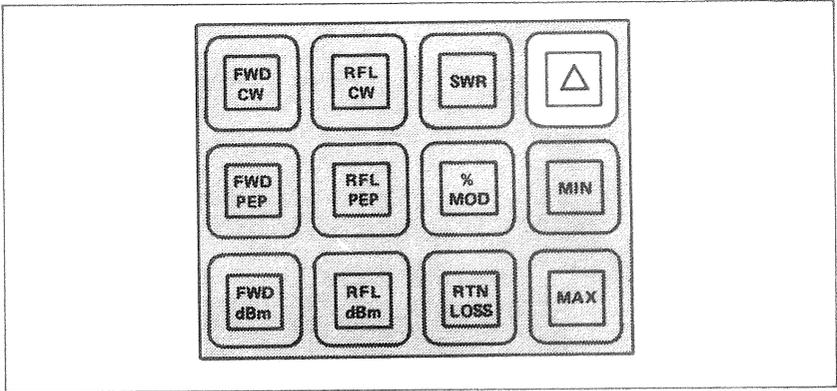

Figure 3-9. Peaking Aid (△).
i. Using the Peaking Aid. (Figure 3-9.) The peaking aid is useful for making adjustments to optimize any of the parameters which the 4391 measures. After the mode is selected, the delta (Δ) key is pressed momentarily. This blanks the least significant digit of the display, and replaces it with a right facing arrow head if the measured quantity is increasing and a left facing arrow head if it is decreasing. If there is no change, the digit is left blank. To find a peak, begin making the adjustment in whichever direction produces a right facing arrow head and continue slowly in that direction until the arrow head turns around. At this point the peak has been reached. To check to make sure the peak has not been passed, press the **MAX** key to read the highest value read and release it to read the current value. The two should be the same. Desired minimum levels (e.g. of reflected power or of SWR) are found in a similar manner.